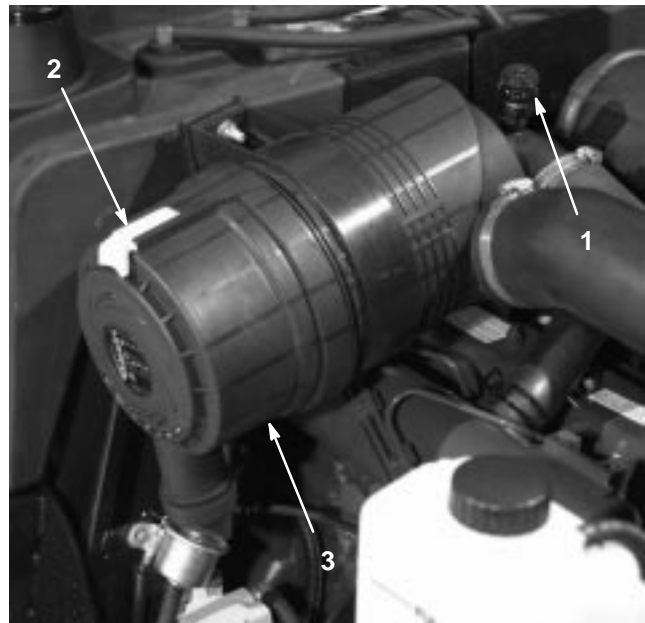

Figure 43
Service the air cleaner filters when the air cleaner indicator (Fig. 43) shows red or every 400 hours (more frequently in extremely dusty or dirty conditions). Do not over-service the air filter.
1. Pull the latch outward and rotate the air cleaner cover counterclockwise. Remove the cover from the body (Fig. 43). Clean the inside of the air cleaner cover.
8. Reset the indicator (Fig. 43) if it shows red.